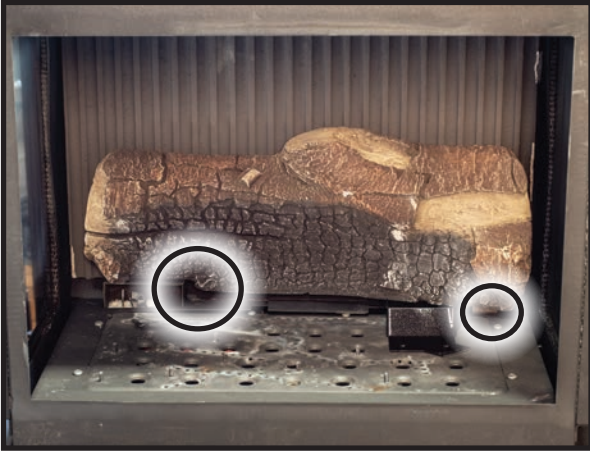

Figure 43. Log #8 Placement
The placement of the logs is not arbitrary. If they are positioned incorrectly, the flames can be “pinched” and will not burn correctly. All of the logs either locate on burner pins or a notch, which make alignment easier. Using the pictures provided, carefully set the logs in place (see Figures 43 through 54).
1. Place Log #8 on top of the pilot shield (left side) and the log rest (right side) at the rear of the firebox. Slide the log left until it contacts the finger stop next to the pilot shield (Figure 43).